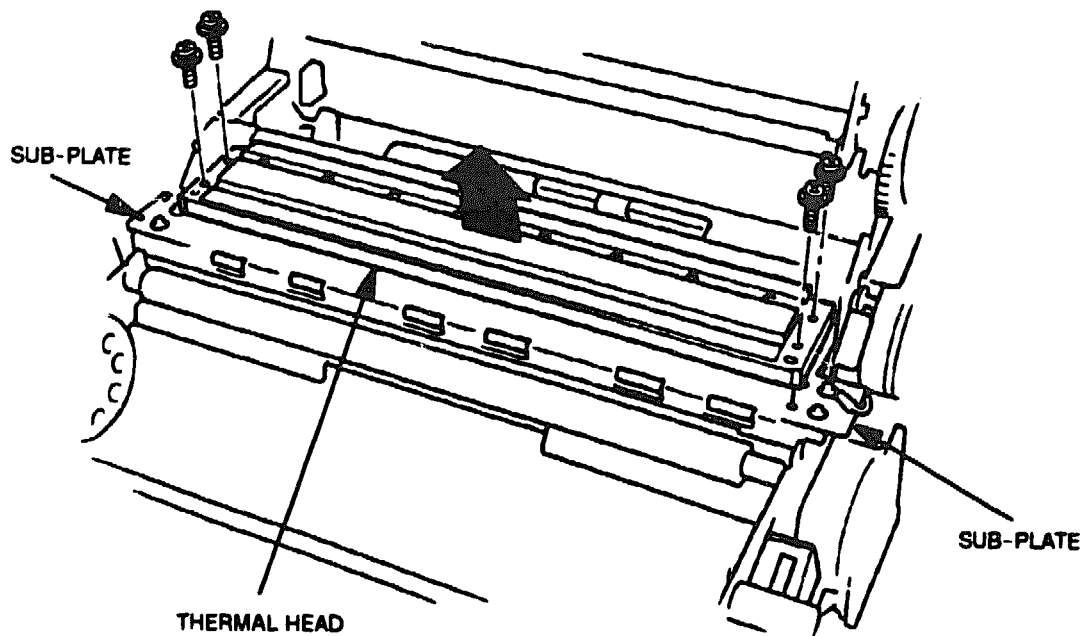

Figure 6-6 Thermal Head Screws
3. Remove the four screws shown in Figure 6-6 that secure the thermal head to the head holder sub-plates and partially lift the head up.
Remove only the screws that secure the thermal head to the head holder sub-plates (see Figure 6-6). Do *not* remove the screws securing the sub-plates. The printer will not operate properly if the sub-plate screws are removed and replaced.